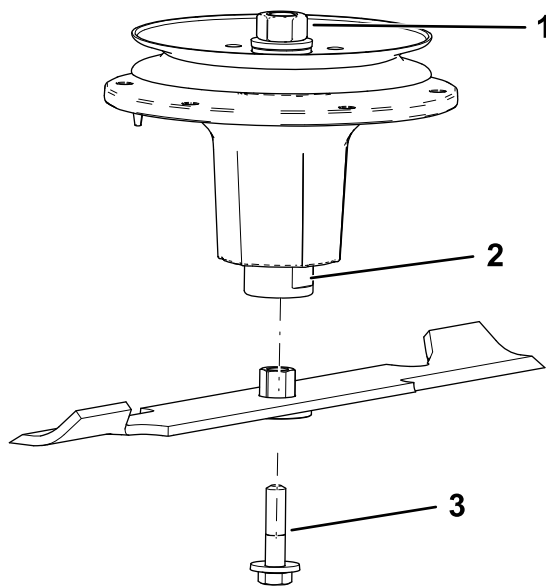

Figure 103
2. Install the bushing/blade assembly into the spindle shaft (Figure 103).